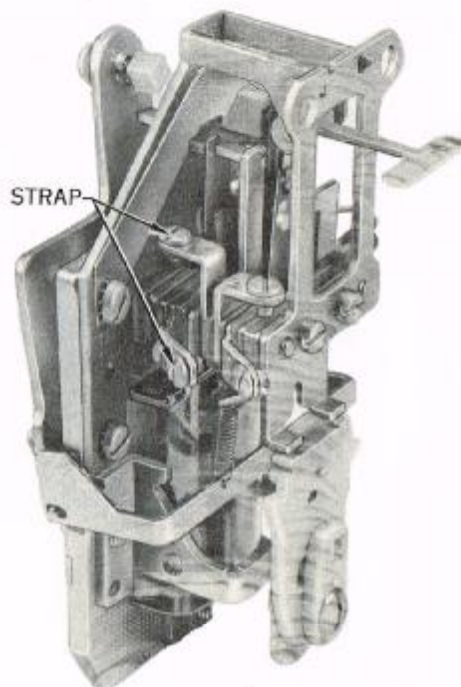

Fig. 10 — Method of Strapping Ground Around Contacts
- (1) Provide ground to line by strapping ground around contacts on coin relay (Fig. 10). Place paper clip, or equivalent, from G terminal to terminal No. 3.
- (2) Be sure trigger on coin relay is not tripped.
- (3) Dial tone should now be heard.
- (4) Dial any digit. Dial tone will not be broken.
- (5) Remove paper clip, or equivalent, and replace cover.